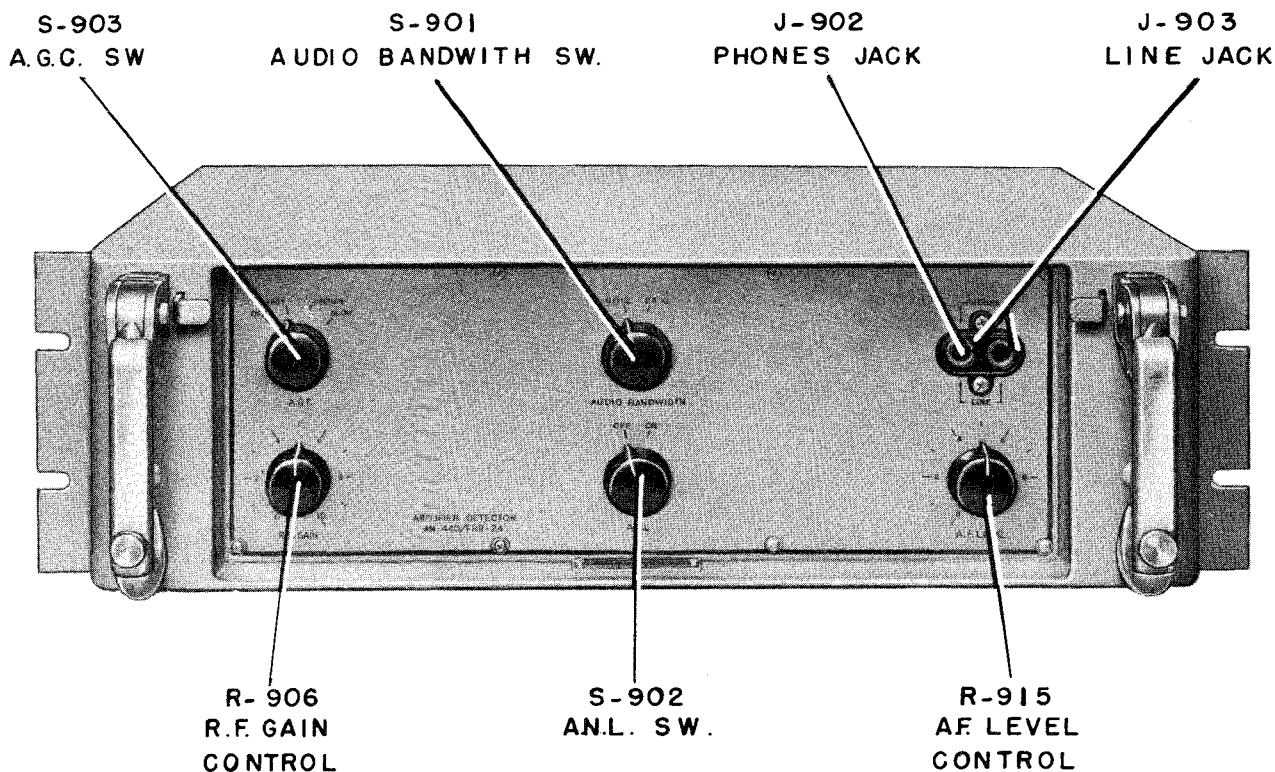

Figure 4-14. Amplifier-Detector AM-440/FRR-24 (units 4A, 4B), Front Panel Component Identification
(2) Bay No. 2 A.C. Power switch turns on the A.C. voltage to Power Supply PP-590/FRR-24 (unit 2M) in bay 2.
(3) Bay No. 3 A.C. Power switch turns on the A.C. voltage to Power Supply PP-590/FRR-24 (unit 3M) in bay 3.
(4) Bay No. 4-Top A.C. Power switch turns on the A.C. voltage to Power Supply PP-649/FRR-24 (unit 4M) in bay 4 which in turn supplies the heater and plate voltage to units 4A, 4B, 4C, 4G, 4H and 4J.
(5) Bay No. 4-Bottom A.C. Power switch turns on the A.C. voltage to Power Supply PP-648/FRR-24 (unit 4N) in bay 4 which in turn supplies the heater and plate voltages to units 4D, 4E, 4F and 4L.
j. AMPLIFIER-DETECTOR AM-440/FRR-24, UNITS 4A, 4B. (See Figure 4-14).—The Amplifier-Detector AM-440/FRR-24 is utilized to amplify and detect a single 50-Kc. I.F. amplifier input signal and to filter and amplify the detected audio output. A.G.C. voltage is developed in this unit for application to the Amplifier-Converter units in bays 1, 2 or 3. A keyed D.C. output is provided to actuate the Keyer KY-62/FRR-24 (units 4G, 4H, 4J) and an audio output signal is also made available. Normal operation is accomplished by means of the following front-panel mounted controls.
(1) A.G.C. SWITCH.—The setting of this switch